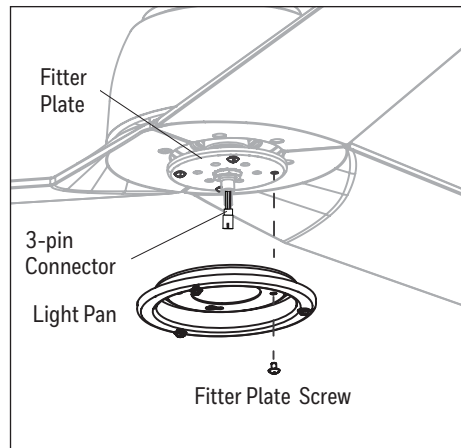

Figure 5.5
5. Remove one of the four fitter plate screws from the fitter plate and loosen the other three but do not remove. Feed the 3-pin connector through the center hole in the light pan. Align the keyhole slots in the light pan with the loosened screws in the fitter plate. Turn light pan clockwise and replace the previously removed fitter plate screw. Tighten all screws (Figure 5.5).